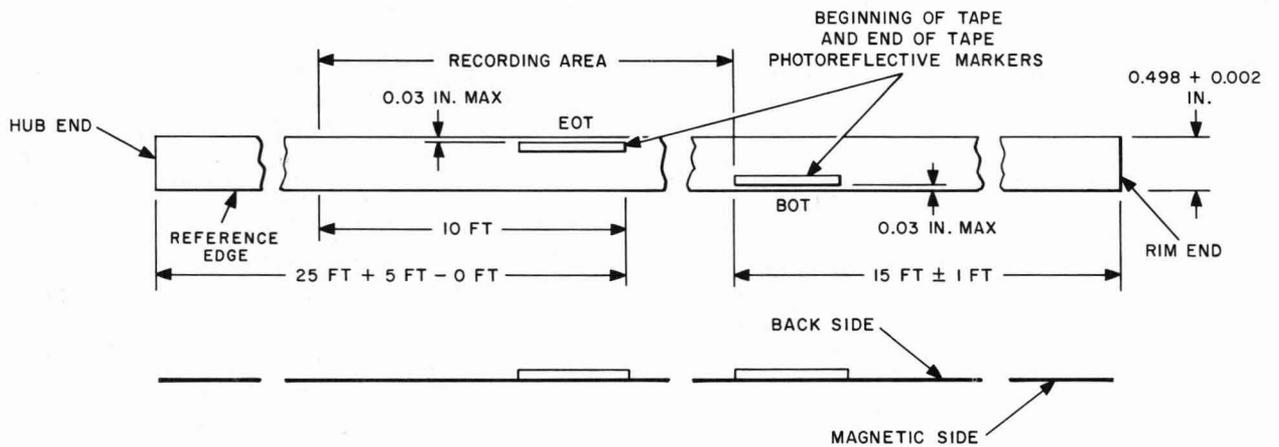

Fig. 11—Photorefective Marker Placement
2.10 End-of-Tape Photosense Assembly: The photosense assembly shall sense beginning-of-tape (BOT) and end-of-tape (EOT) reflective markers (Fig. 11) located on the back (uncoated side) of the magnetic recording tape.